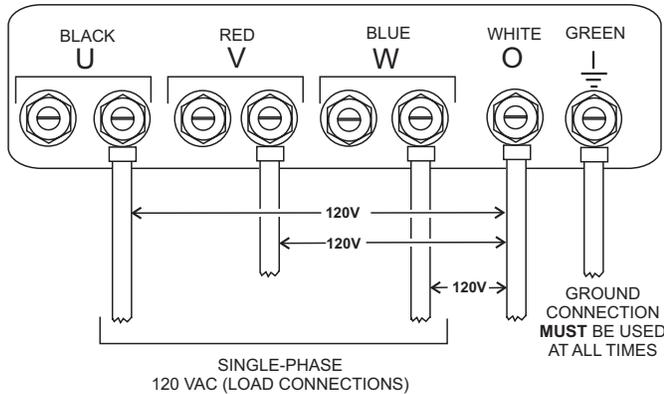

Figure 20. UVWO Terminal Lugs Single-Phase 120-Volt Connections
3. Connect the load wires to the UVWO terminals as shown in Figure 20.